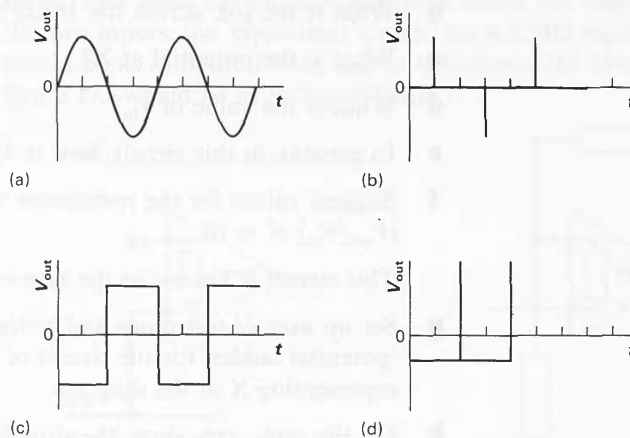
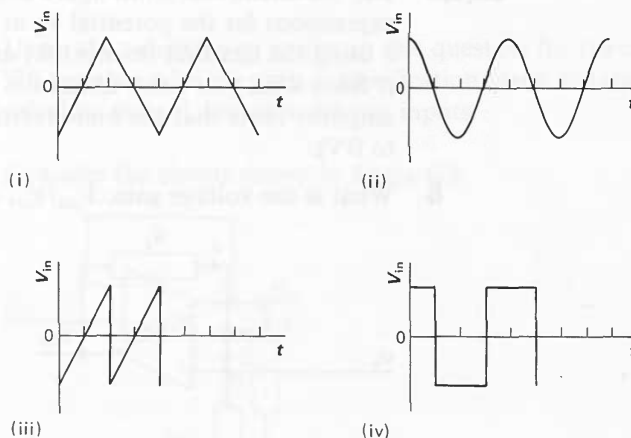

Figure I70
Figure I71
- b** Various *output* waveforms of a differentiating circuit are shown in figure I70. For each of them pick the appropriate 'ideal' input from figure I71.